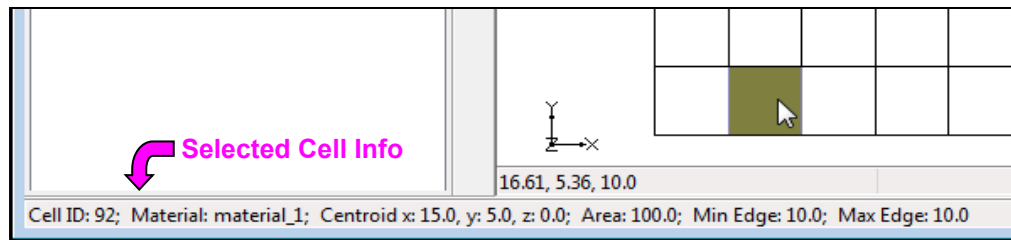

Figure 10 Status bar showing selected cell information
- Using the **Select Cells**  tool, click on any of the cells in the UGrid (Figure 10). Notice that several items of information about the selected cell are displayed in the Status bar at the bottom of the main GMS screen.